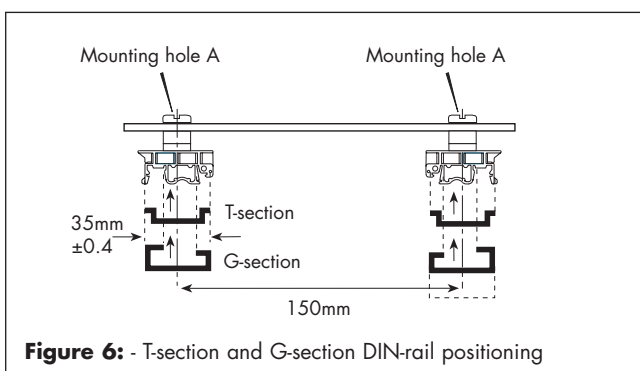

Figure 6: - T-section and G-section DIN-rail positioning
- Mount the two lengths of DIN-rail side-by-side at 150mm centres (figure 6).